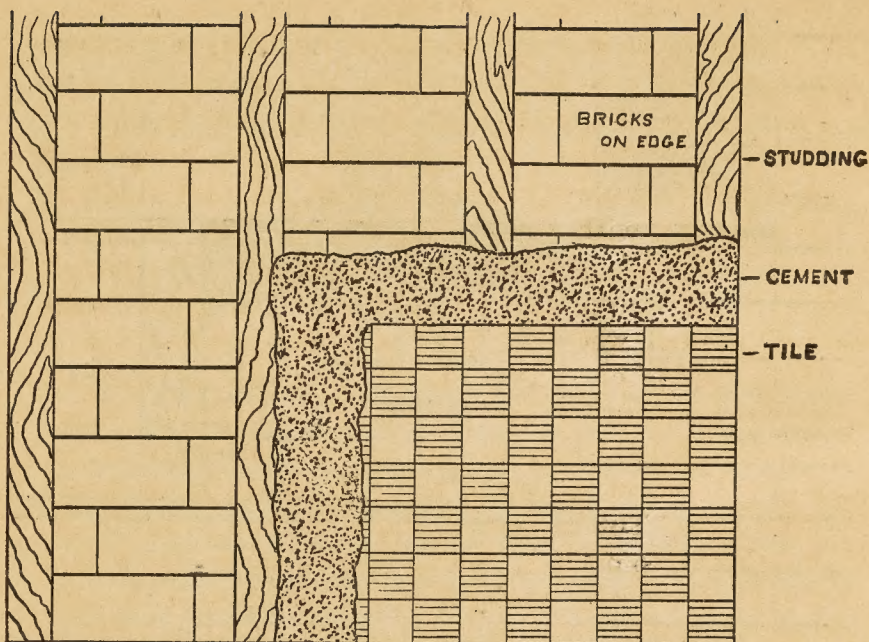
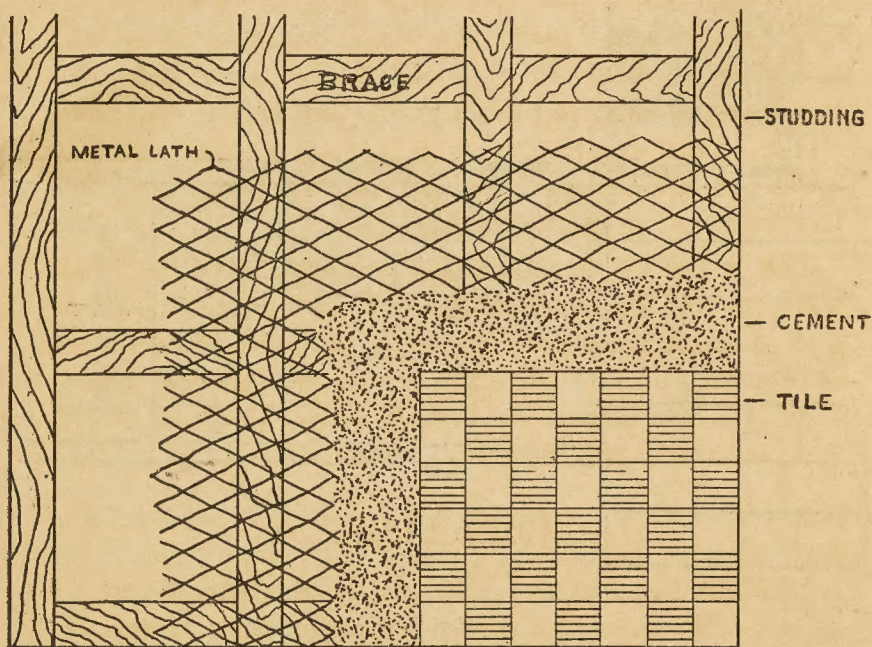

FIG. 6.
FIG. 7.
not be pointed. When tiles are to be placed on studding, the studding should be well braced by filling in between the studding with brick set in mortar to the height of tile work (See Figure 6) ; or brick work may be omitted and extra studding put in and thoroughly bridged, so as to have as little spring as possible, and this studding then covered with sheet metal lathing. (See Figure 7.) (TILE MUST NEVER BE PLACED ON WOOD LATH OR ON OLD PLASTER.) The brick walls must be well wet with water and then covered with a rough coating of cement mortar, composed of one part Portland cement and two parts clean sharp sand. When tiles are placed on metal lathing, hair should be mixed with the cement mortar to make it adhere more closely to the lath. The cement mortar should be  $\frac{1}{2}$  inch thick, or sufficient to make an even and true surface to within one (1) inch of the intended finished surface of the tile, when tile  $\frac{1}{2}$  inch thick is used, which will allow a space of  $\frac{1}{2}$  inch for the cement mortar, composed as above for rough coating the walls. The face of the cement foundation should be roughly scratched, and allowed to harden for at least one day before commencing to lay the tile. If any lime is mixed with the cement mortar for setting the tiles, *it should never exceed 10 per cent.*, and great care must be used to have the *lime well slacked*, and made free from all lumps by running through a coarse seive, in order to guard against "heaving" or "swelling," and thus loosening or "lifting" the tiles.